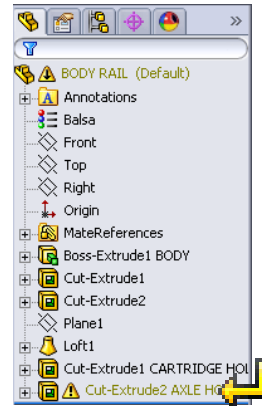

Fig. 70
Step 3. Move **Cut-Extrude2 AXLE HOLES** below **CARTRIDGE HOLE** feature, **Fig. 70**. To move the feature, drag **Cut-Extrude1 AXLE HOLES** down, when the yellow pointer  is over **CARTRIDGE HOLE** and release. **Ignore the What's Wrong dialog box**.